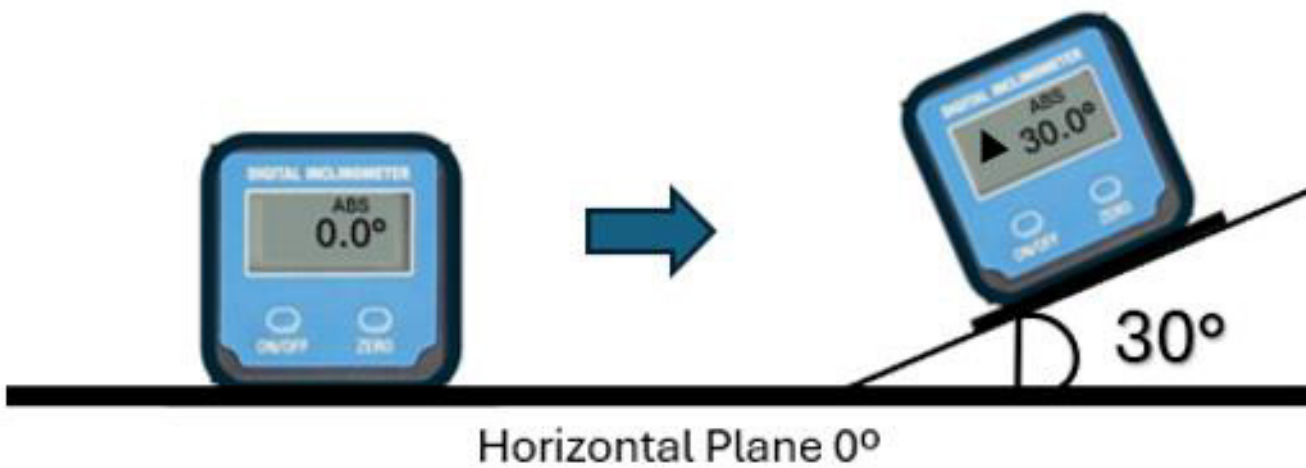

Figure 2
- ABS (Absolute) Mode (ABS is displayed) measures the angle between a flat horizontal surface and an object (Figure 2).